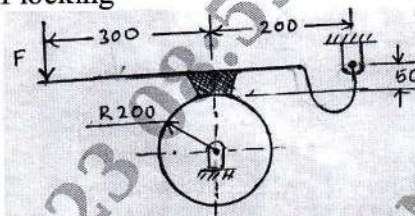

Fig. Q8 (a)
- b. A differential band brake is shown in Fig. Q8 (b). The width and thickness of the steel band are 100 mm and 3 mm respectively and the maximum tensile stress in the band is 50 N/mm². The coefficient of friction between the friction lining and the brake drum is 0.25. Calculate